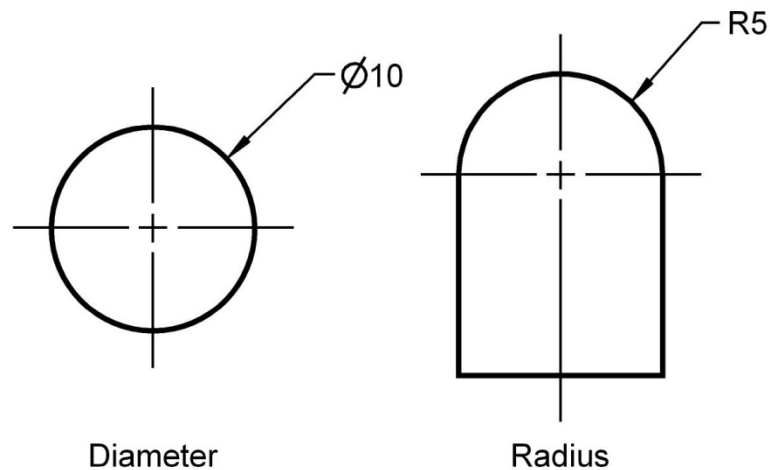

Figure 2-5: Diameter and radius dimensions
- a) A circle is dimensioned by its diameter and an arc by its radius using a leader line and a note. A diameter dimension is preceded by the symbol “ \varnothing ”, and a radial dimension is preceded by the symbol “R”. On older drawings you may see the abbreviation “DIA” placed after a diameter dimension and the abbreviation “R” following a radial dimension. Figure 2-5 illustrates the diameter and radius dimensions.